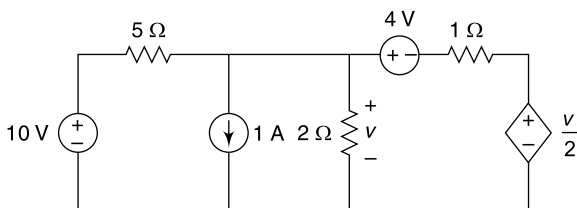

Fig. 4.148 Circuit of Ex. 4.117
4.117 Find v in the circuit shown in Fig. 4.148 using superposition theorem.